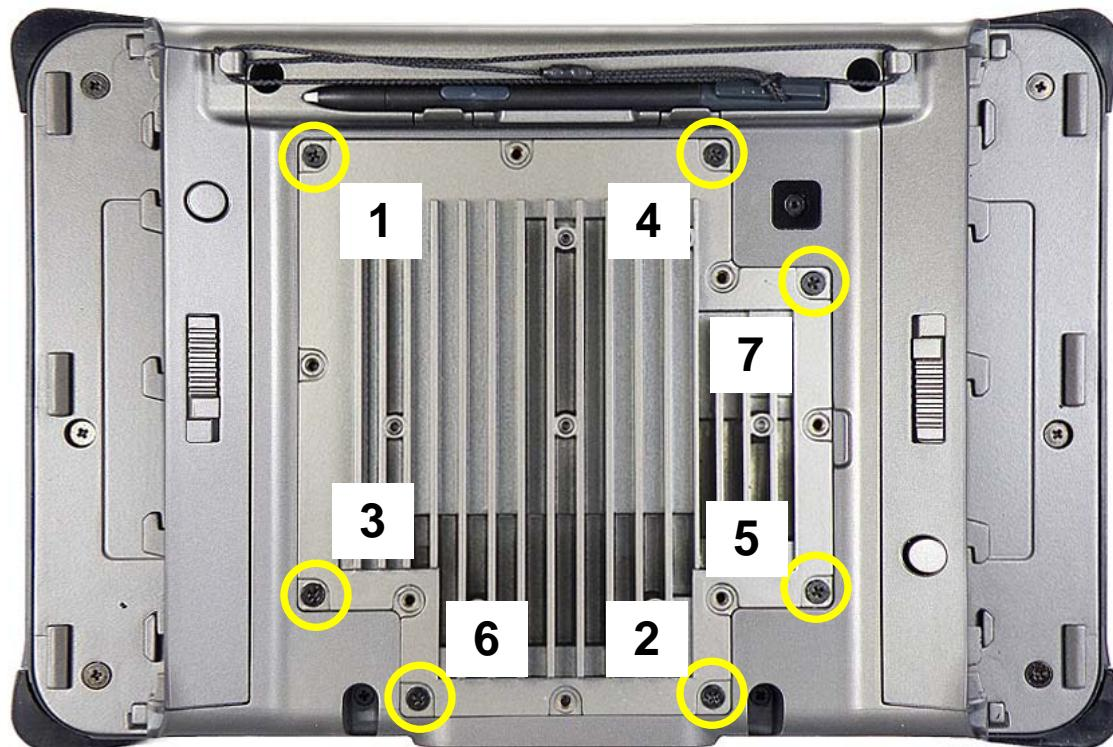

Figure 92. Cooling Register Initial Screw Placement
5.	Insert 7 Philips screws in the circled locations shown in Figure 92 and tighten until slightly snug. Do not fully tighten at this time.
6.	Once all 7 screws are installed, torque each screw to 2.8 kg-cm (2.4 in-lb) following the numbered sequence indicated in Figure 92.